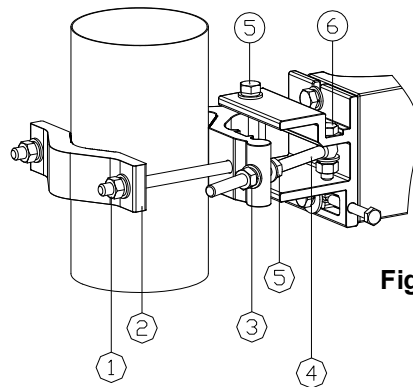

Fig 5.1
Referring to Fig 5.1, slightly loosen the 2 nuts ① of the Clamp ②. Then push the whole antenna structure slowly round the mounting pole. Point the antenna in approximately the correct direction. Use a compass to determine the antenna's position if necessary, and then tighten the nuts ①.